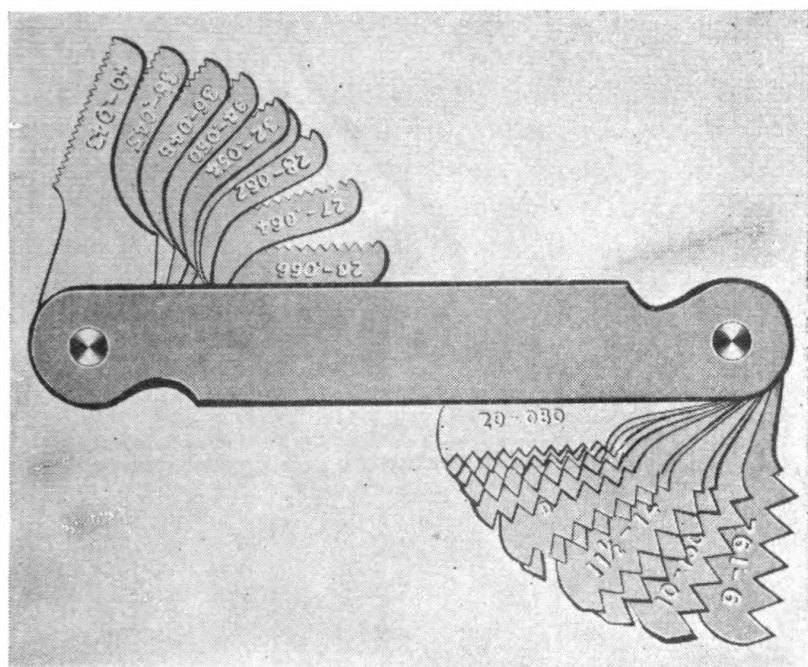

FIGURE 58.—Screw pitch gage.
d. In order that there may be enough metal in the hole to provide material into which the threads can be cut, the hole must be slightly smaller to begin with than the full diameter of the screw to be used in it. Tables similar to table II are available in most places where tapping is done. Since it is important that the mechanic drill a hole the right size for the tap he is going to use, he should understand this type of table thoroughly and refer to it whenever possible. For example, if it is desired to tap a hole for a No. 12-24 screw, first find this size in column 1. Across from it in column 5 is shown the right size of drill to use. Hence for a No. 12-24 screw, the mechanic would drill the hole with a No. 16 tap drill; for a No. 10-28 screw, with a No. 23 tap drill; and so on. When any doubt exists as to the pitch of a screw, a screw pitch gage (fig. 58), if available, can be used. If a nut to fit the screw is at hand, it will serve the purpose of a pitch gage; try running it on the tap, and if it fits, the pitch of the tap is correct.